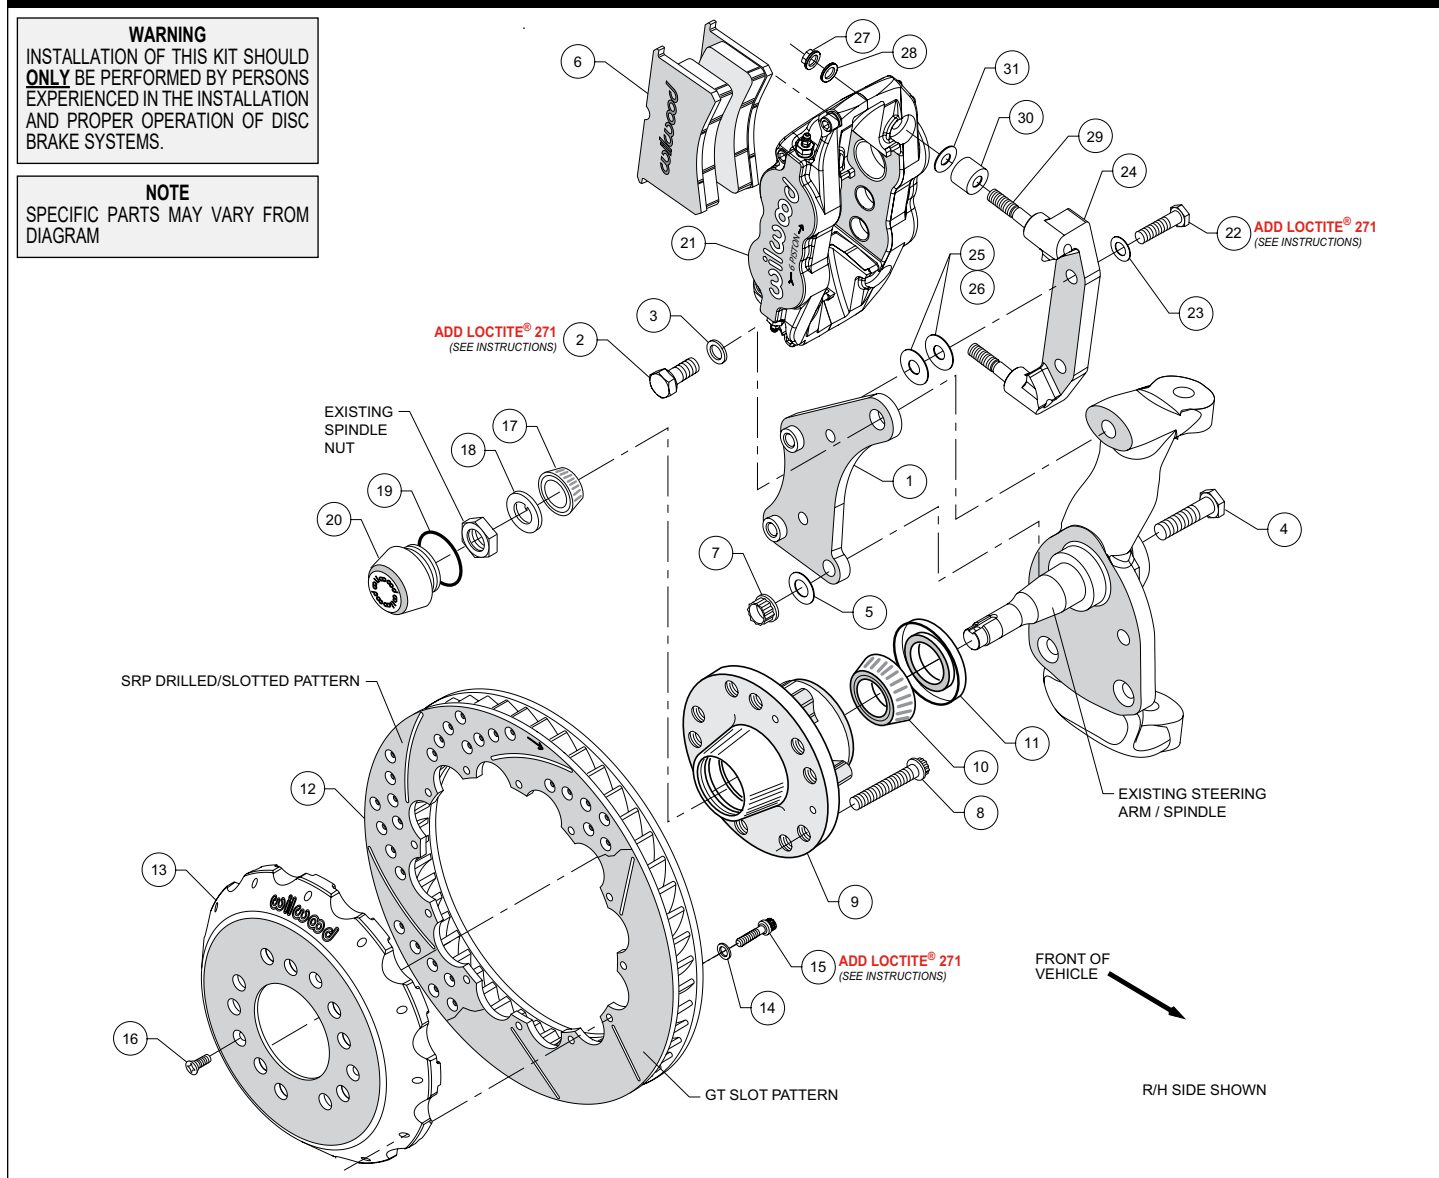

Figure 1. Typical Installation Configuration
- Mount the radial mount caliper bracket (24) to the first "flat" caliper mounting bracket (1) from the far side by sliding bolt (22) through washer (23). Place two .030 thick flat washers (26) between the two brackets (1 and 24) before sliding the mounting bolts (22) all the way into the first caliper mounting bracket (1). Finger tight only.
•**NOTE:** This kit contains distinct right and left hand calipers that must be mounted in a specific direction, as described below. Install spacer (30) and one shim (31) over each stud (29) on the radial mount bracket (24). Slide the caliper (21) in place over the studs and rotors and install the washer (28) and lock nut (27) to hold the caliper in place, Figure 1. Ensure that the caliper is mounted so that the largest pistons are at the rotor exit end of the caliper, in relation to the direction of rotor rotation. Snug the lock nuts (27) and check that the rotor (12) is centered in the caliper (21). Add or subtract .030" shims (26), or add additional .015" shims (25), as necessary between the radial mount bracket (24) and the flat bracket (1) to center the caliper. Finger tighten and recheck alignment. Use as many shim washers (combination of 25 and 26) as necessary to achieve the correct alignment. Apply red *Loctite*® 271 to bolt threads (22) and torque to 60 ft-lb.